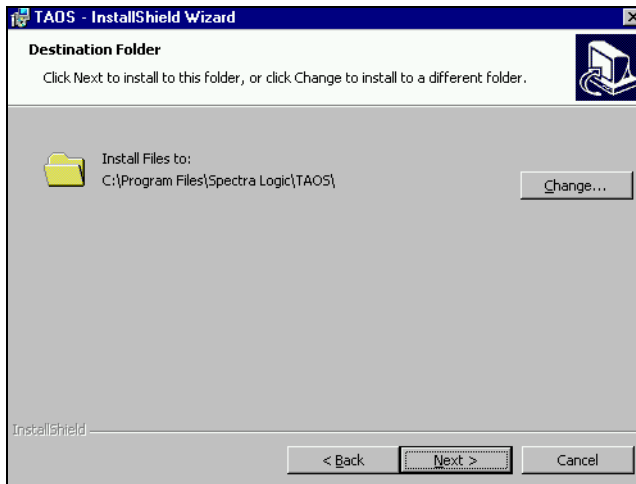

Figure 7-8 *The Destination folder window.*
5. Click **Next** to install to C:\Program Files\Spectra Logic\TAOS\. Click **Change** to install to a different destination (Figure 7-8).